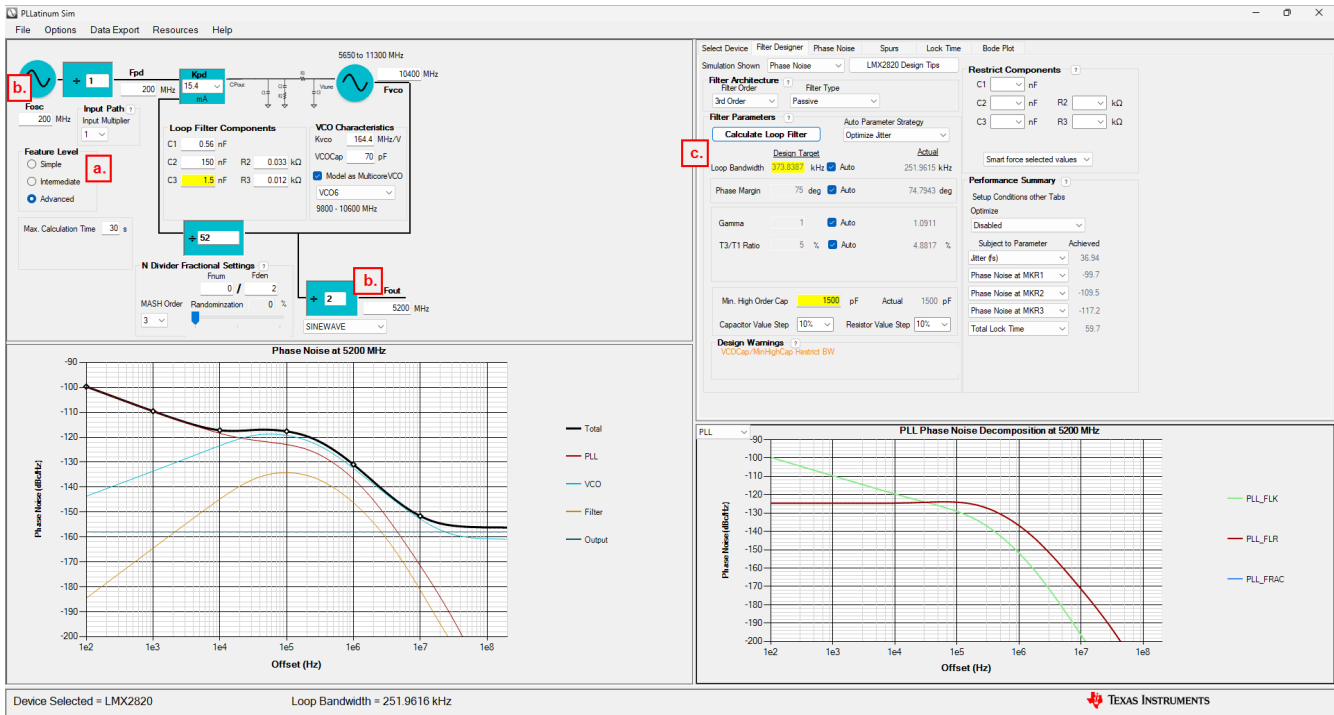

Figure 10-2. Setting up System Requirements of the Application in PLLatinum Sim
2. Input the F_{osc} and F_{out} based on system requirements. Following the system from Section 9, F_{osc} is 100MHz and F_{out} is 5200MHz. The step-by-step guide is demonstrated in Figure 10-2.